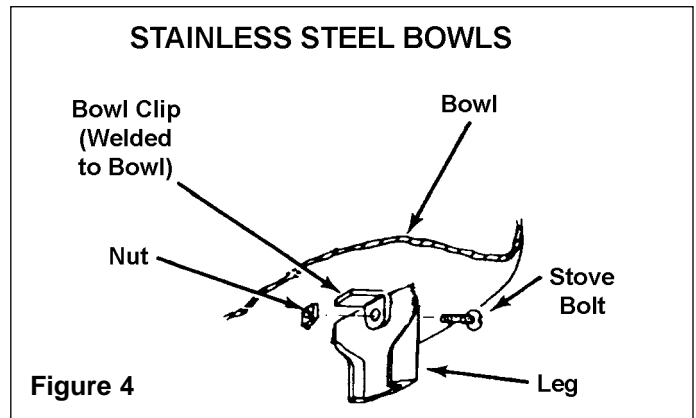

Figure 4
2. Fasten the bowl to the pedestal with the four flat head stove bolts provided. Place the bowl clip inside the pedestal leg (see Figure 4).